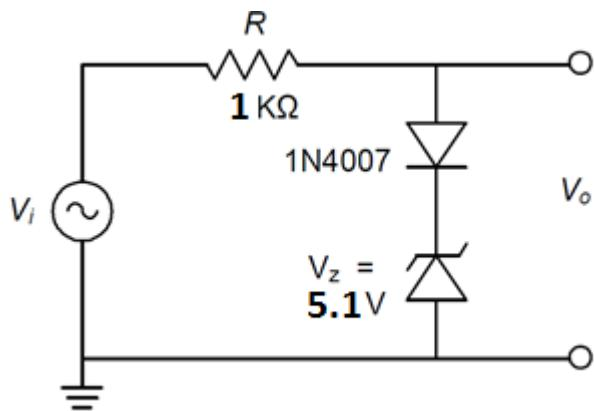

Fig. 4
1. Connect the circuit as shown in Fig. 4 with $R = 1 \text{ k}\Omega$.
2. Set the function generator to 10 V peak-to-peak sine wave at 500 Hz frequency. Observe the function generator output on the oscilloscope and verify sine wave generation. Connect the function generator output to the circuit as shown in Fig. 4.